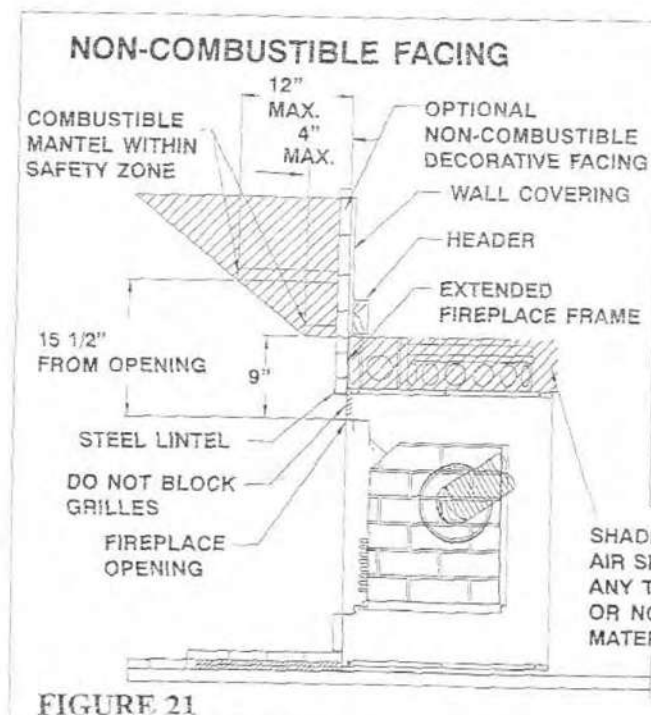

FIGURE 21
**NOTE:** Use an "L" shaped piece of metal (lintel) across the top of the fireplace opening for support of non-combustible materials when used on the face of the fireplace. It can be attached to the face of the fireplace with screws (Figure 21)
Combustible mantels may be safely installed provided they do not project beyond the safety zone illustrated in Figures 21 and 22 on the previous page.